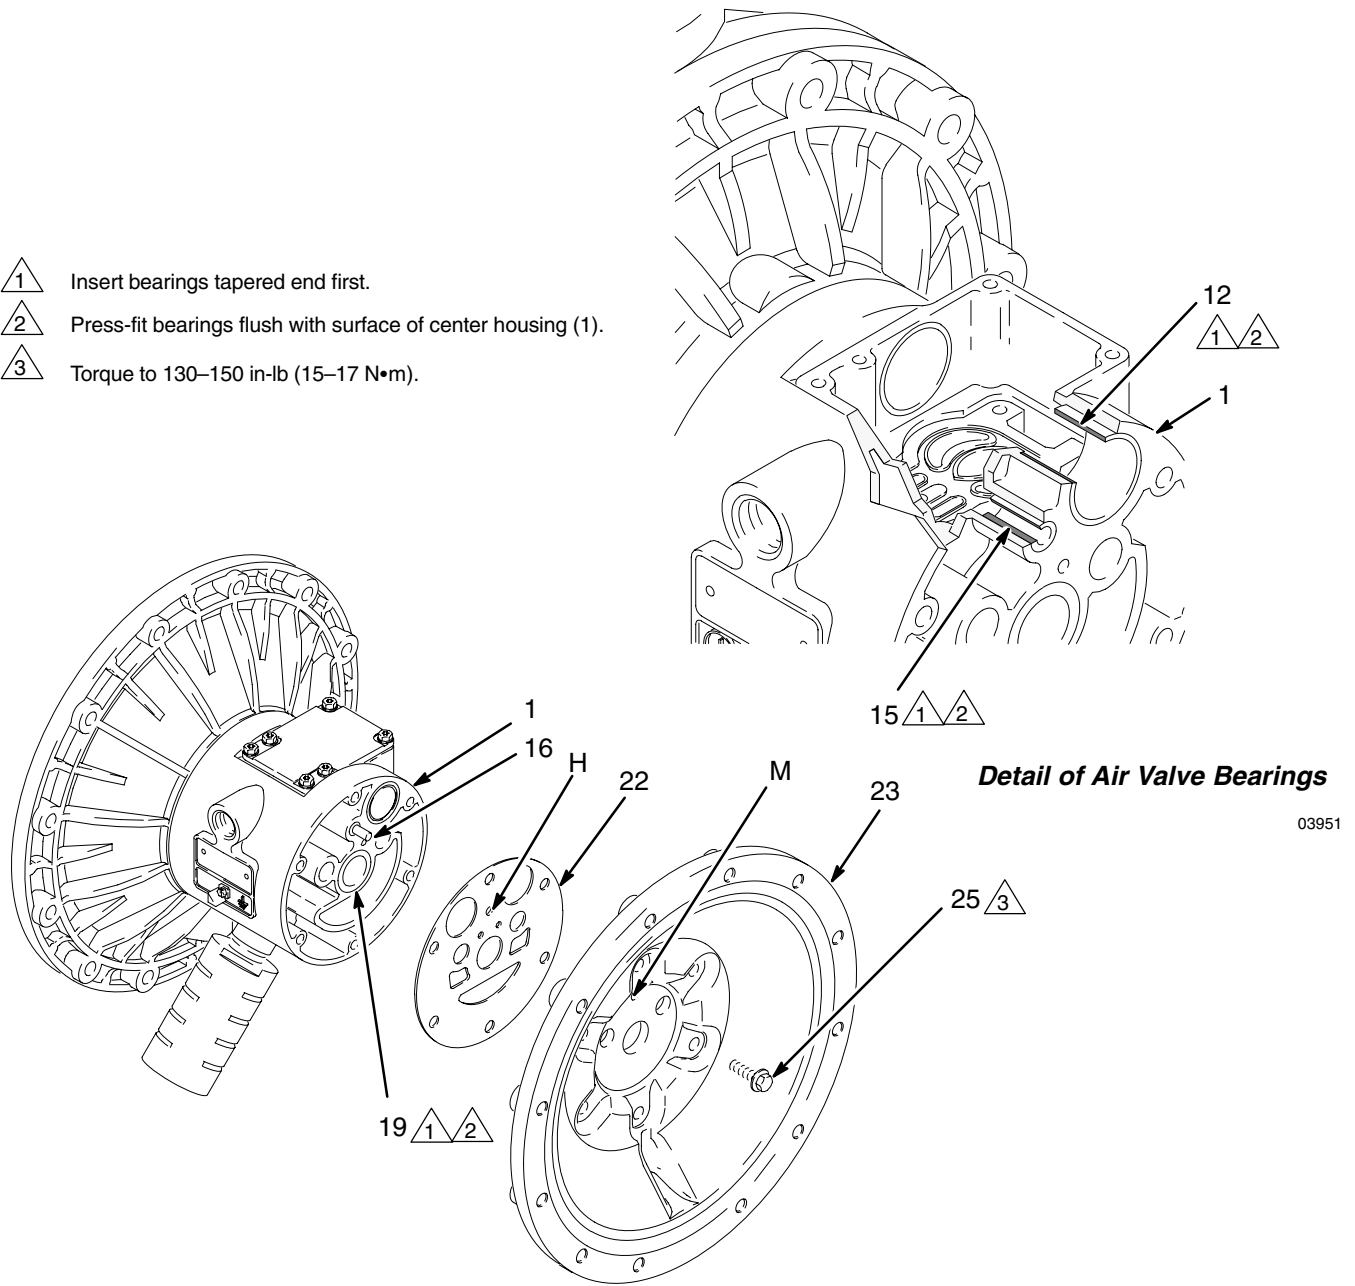

Fig. 14
- NOTE:** If you are removing only the diaphragm shaft bearing (19), skip step 22.
5. Using a 10 mm socket wrench, remove the screws (25) holding the air covers (23) to the center housing (1). See Fig. 14.
6. Remove the air cover gaskets (22). Always replace the gaskets with new ones.
7. Use a bearing puller to remove the diaphragm shaft bearings (19), air valve bearings (12) or pilot pin bearings (15). Do not remove undamaged bearings.
1. If removed, install the shaft u-cup packings (402*) so the lips face **out** of the housing (1).
2. The bearings (19, 12, and 15) are tapered and can only be installed one way. Insert the bearings into the center housing (1), **tapered end first**. Using a press or a block and rubber mallet, press-fit the bearing so it is flush with the surface of the center housing.
4. Align the new air cover gasket (22) so the pilot pin (16) protruding from the center housing (1) fits through the proper hole (H) in the gasket.
5. Align the air cover (23) so the pilot pin (16) fits in the middle hole (M) of the three small holes near the center of the cover. Install the screws (25), handtight. See Fig. 14. Using a 10 mm socket wrench, torque the screws oppositely and evenly to 130–150 in-lb (15–17 N•m).